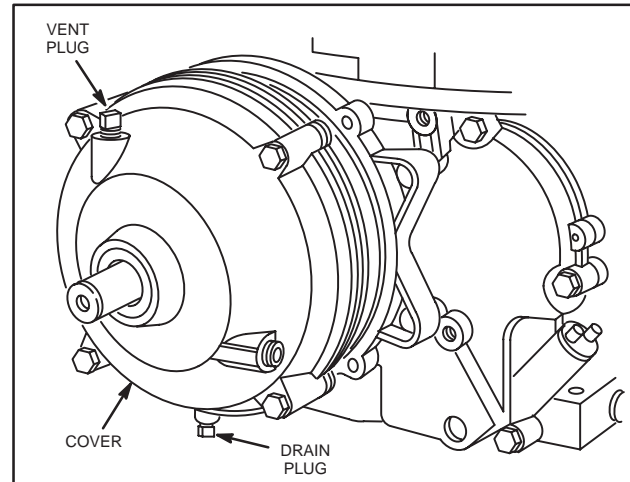

Fig. 137 – DRAINING GEAR REDUCTION AND REMOVING COVER
3. After gear case is drained, loosen and remove four cap screws and cover, Fig. 137.